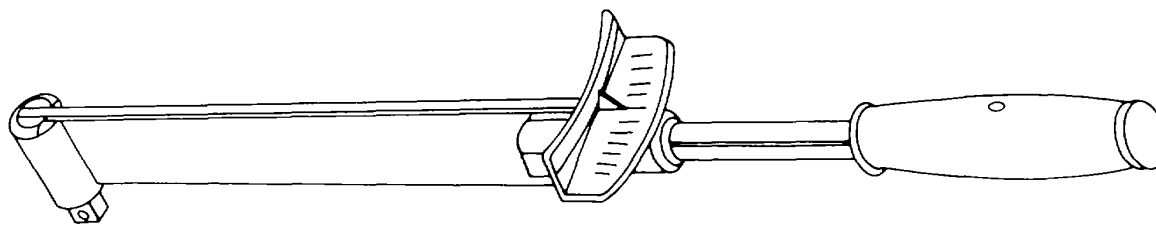

Figure 8-5. Type I, Class 1, Style A Torque Wrench - Deflecting Beam with Indicator Plate (Direct Reading)
*a. Types.* In aircraft maintenance applications, the rigid frame with the indicating dial and the audible indicating torque wrenches are used in preference to the flexible beam-type wrench. The audible-indicating torque wrench is preferred since it can be used in places of limited accessibility where it would be difficult to read a dial or scale while performing the tightening operation. For the combinations of features available in torque wrenches, see figures 8-5 through 8-14.